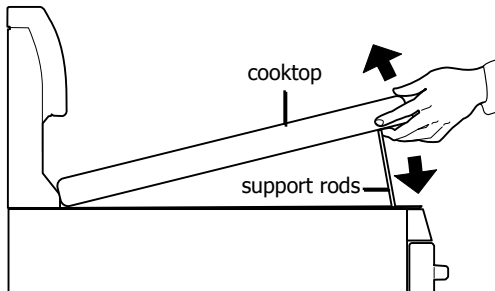

Fig. 1
- Grasp the sides and lift from the front (See Fig. 1). Lift-up rods will support the top in a raised position. Only lift the cook top far enough to allow the support rods to snap into place.